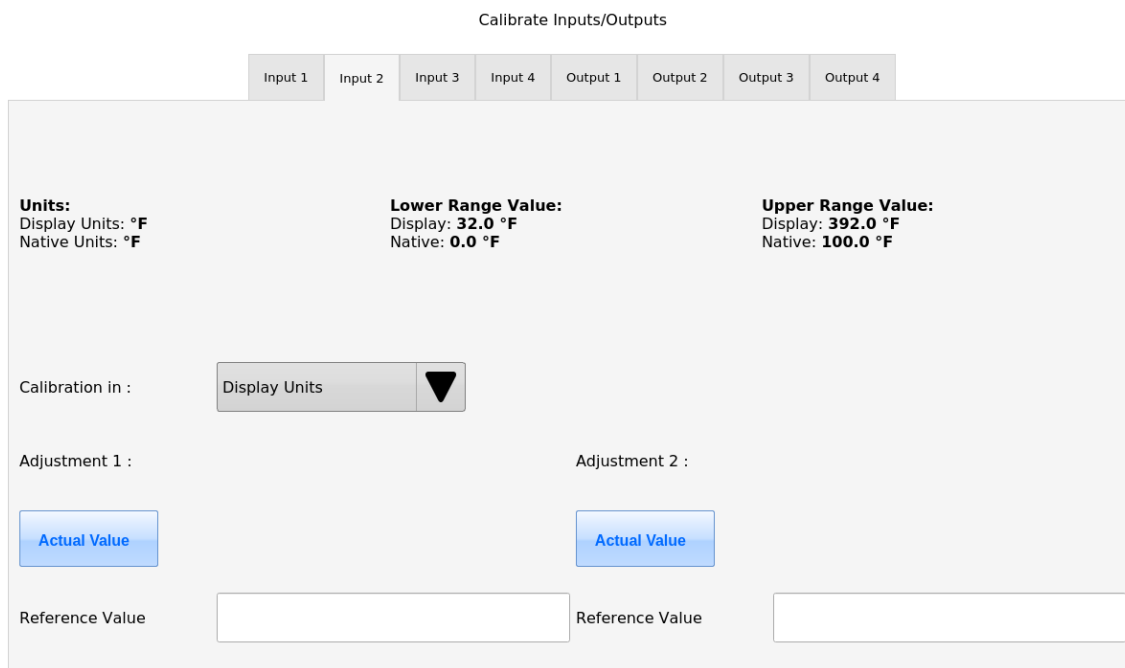

Figure 74: Input Calibration
4. Select the *Input Number* tab of Input you would like to calibrate as seen in Figure 74: Input Calibration below.
5. Choose to perform the calibration in Display Units or Native units. Below the input tabs there is a section of read only information that displays the input configuration details including the Display units, native units and ranges for each, See example in Figure 74 below.